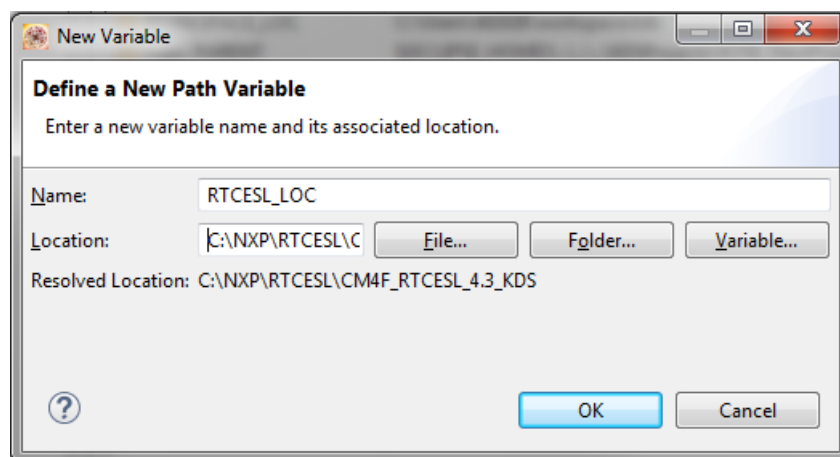

Figure 1-13. New variable
4. In the dialog that appears (see Figure 1-13), type this variable name into the Name box: RTCESL_LOC.